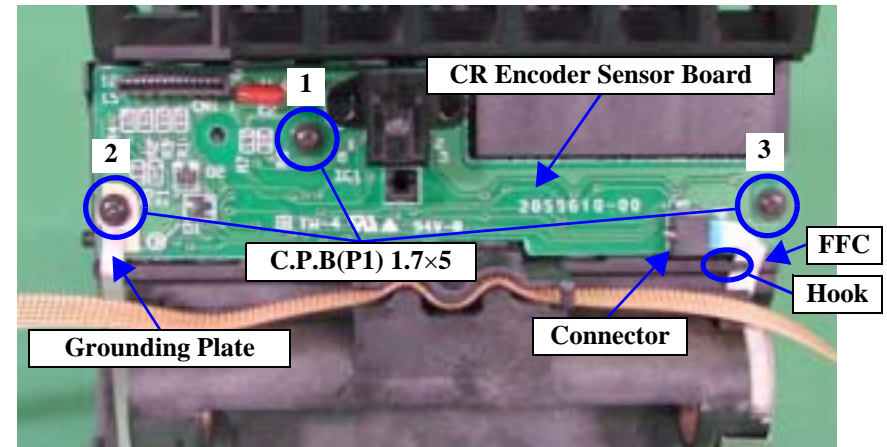

Figure 4-101. Removing the CR Encoder Sensor Board
- Fit the screws into the CR Encoder Sensor Board in the order shown in Figure 4-101.
- Before fitting the screw indicated by 2. in Figure 4-101, place the Grounding Plate on the Board.
- Reinstall the CR Encoder Sensor Board securely and evenly. Otherwise, when the Carriage Unit operates, the Driven Pulley and PW Sensor Connector will make contact with each other and there is a strong likelihood of operation fault occurrence. Refer to Figure 4-101, "Removing the CR Encoder Sensor Board".